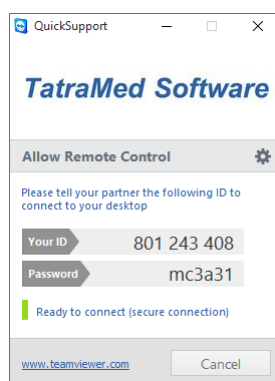

Figure 466 – TeamViewer QuickSupport with your ID and password
2. The **QuickSupport** dialog with ID and password is displayed (see Figure 466).